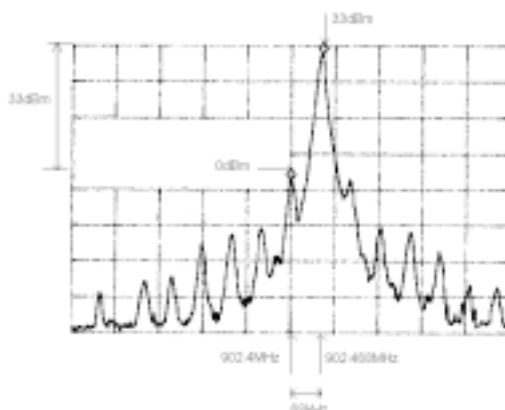

Figure 20: Carrier leakage ratio
- Figure 20 in the spectrum analyser measure the carrier leakage ratio. Carrier leakage ratio is measured as the ratio of peak power and the power at 68kHz below peak frequency.